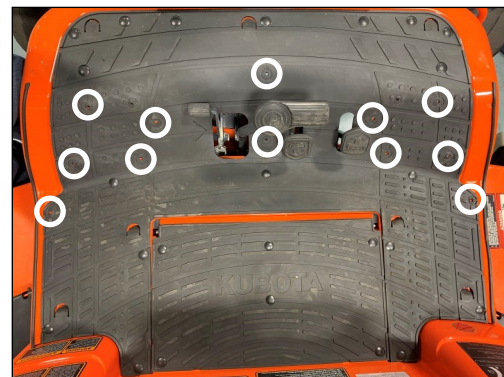

Fig. 4.3 (Remove Pine Tree Clips)
- 4.3 See fig. 4.3. Remove the pine tree clips from the floormat at the 12 locations shown.